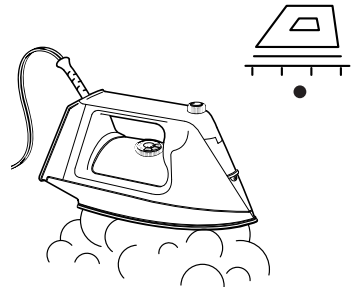

Figure 1
6. With Soleplate facing away from you, turn Steam Dial to steam-cleaning position. See Figure 1. The Iron will force steam out of the holes and clean the holes of calcium and other mineral deposits.